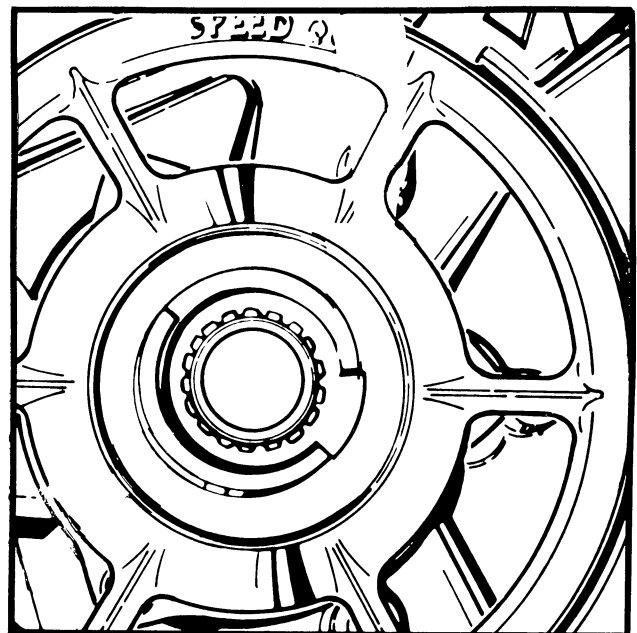

Figure 130
14. Turn pulley in a clockwise direction until stop is dropped into position on the lower flat portion of the spin pulley. Looking down, with stop against the left side of the raised half moon, there should be at least .030 inch clearance but not more than .050 inch between pulley and the stop. If found to be over or under, realign, *Figure 130*.